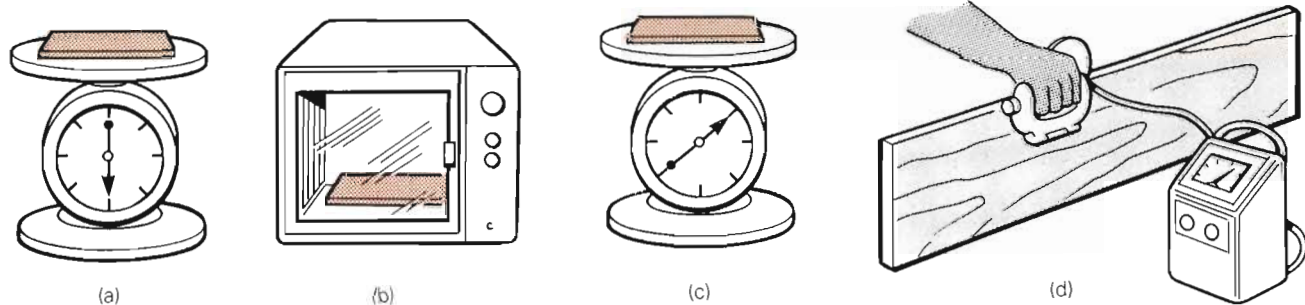

Figure 9.8 Determination of moisture content: (a) weigh before drying, (b) dry the sample, (c) weigh after drying, (d) determine MC with a meter.
Moisture content (MC) is a measure of the amount of water contained in a timber and is expressed as a percentage of its oven-dry weight (Figure 9.8). A well-seasoned timber has a low percentage of moisture; that is, the lower the percentage the drier the timber. When a living tree is felled, more than half of its weight may be moisture and a large part of this must be removed before the timber can be put to effective use.